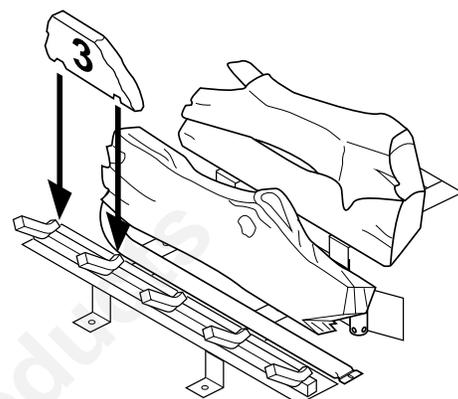

Figure 50 - Installing Log No. 3
3. Place log #3 (left log) onto the rear and front logs. Make sure it is seated properly into the notch on the front log and over the raised triangular portion of the rear log as shown in Figure 50.